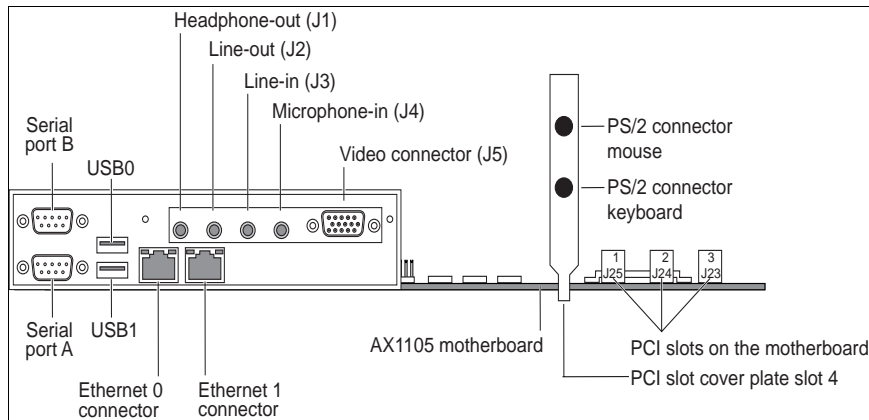

Figure 6: Connections on the rear of the LAN Console
- ▶ Insert the data cable for the monitor into the monitor port on the system unit (video connector J5 as shown in figure 6).